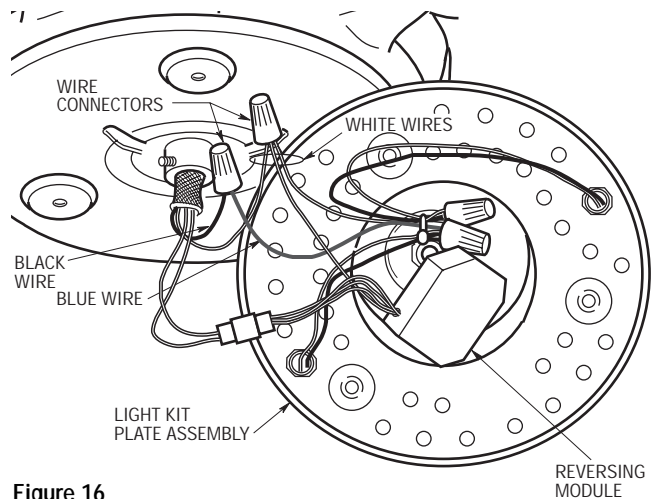

Figure 16
6. Securely connect the black wire from the light kit plate assembly to the blue wire from the motor shaft using a wire connector (supplied) (Figure 16). Connect the white wire from the plate assembly and the white wire from the reversing module to the white wire from the motor shaft using a wire connector (supplied).